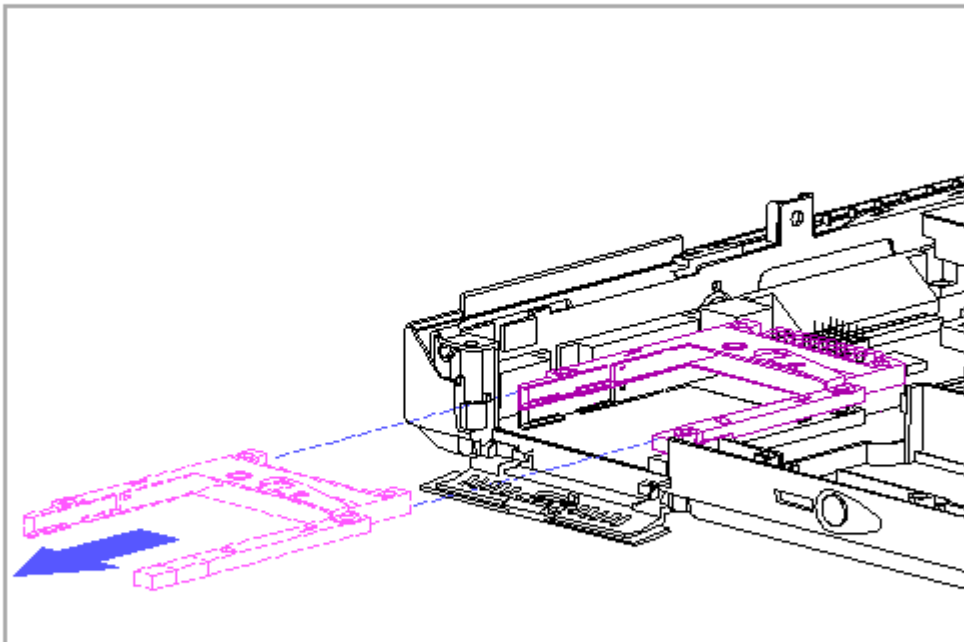

Figure 4-37. Removing the PCMCIA Ejector Rails
3. Remove the top ejector rail by sliding it gently but firmly out of the system unit (Figure 4-37).